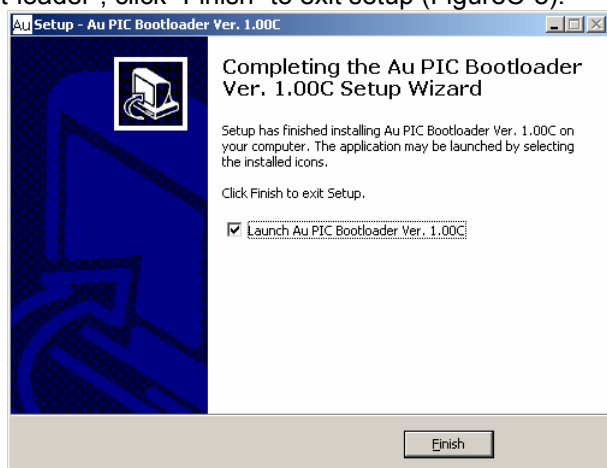

Figure C-8
8. After a few seconds, "Completing the Au PIC Boot-loader Setup Wizard" window shows up, check "launch Au Boot-loader", click "Finish" to exit setup (FigureC-8).